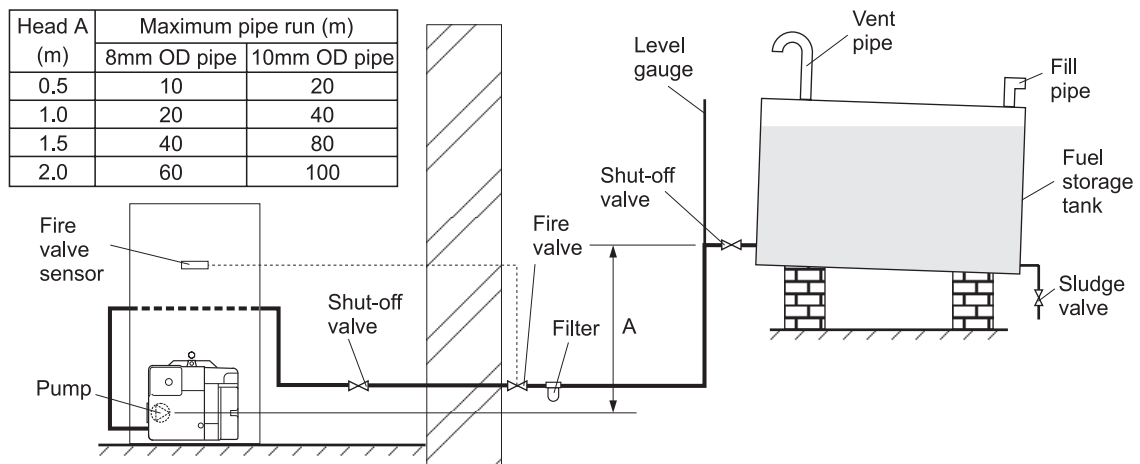

Fig. 3 - Single pipe system
4.4.3 Single pipe system - (See Fig. 3)